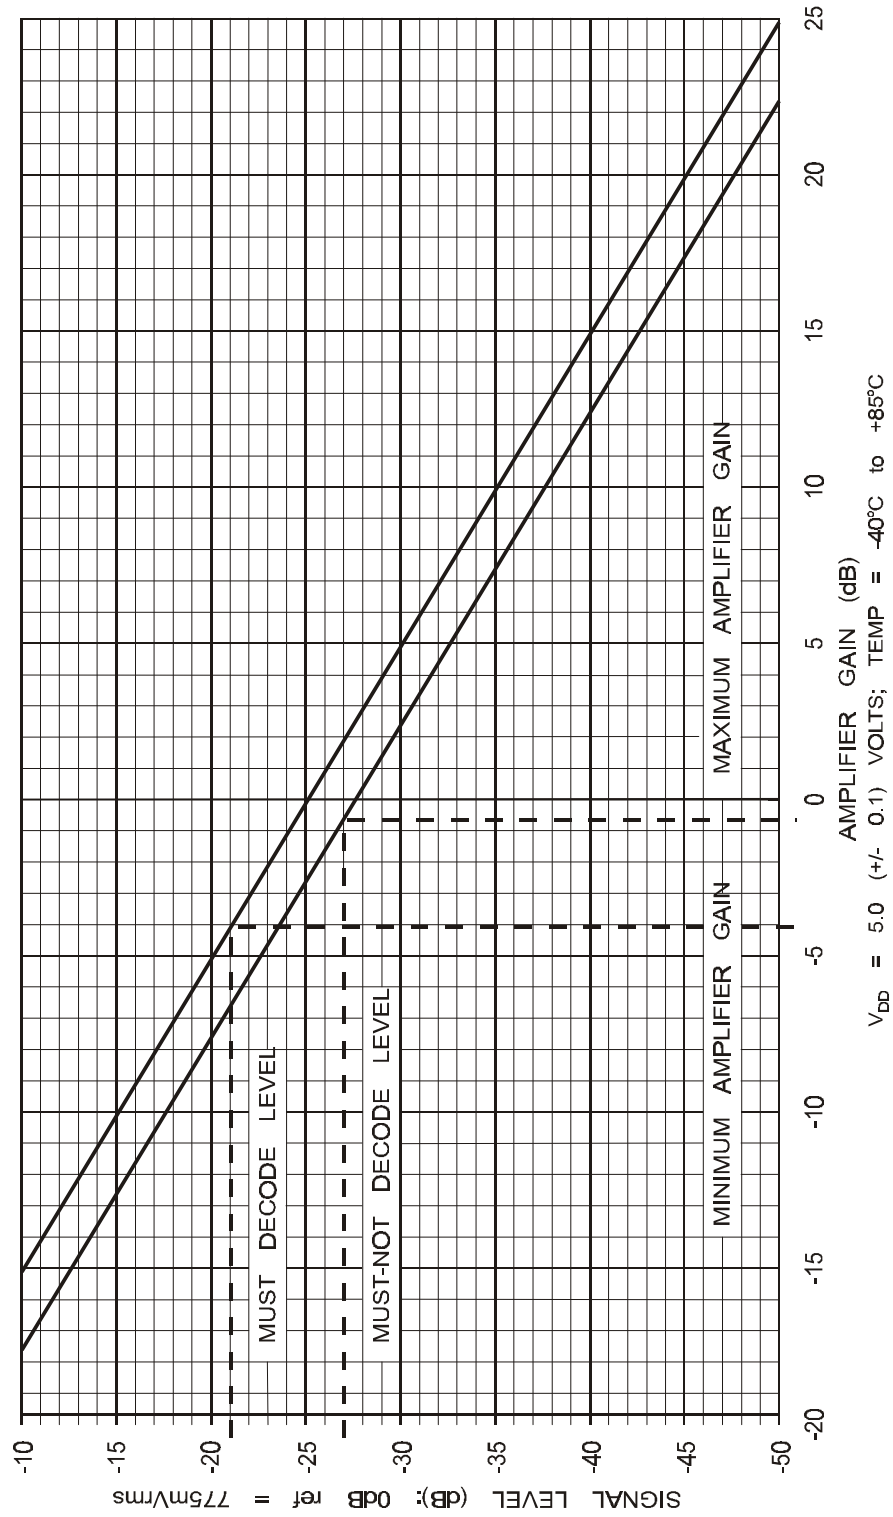

Figure 6 Input Gain Calculation Graph for use in the Fixed Sensitivity Mode of the Fixed Bandwidth Operating State
In this mode, the sensitivity of each channel is set by correct selection of external components around each Channel input amplifier. See section 1.6.5 and Figure 6 for a method of selecting amplifier gain and components to meet a particular sensitivity requirement.
*Input Gain Calculation:* The input amplifiers, with their external circuitry, are available to set the sensitivity of the CMX641A to conform to the user's national level specification with regard to 'Must' and 'Must-Not' detect signal levels. With reference to the graph in Figure 6, the following steps will assist in the determination of the required gain/attenuation.
Note that the device sensitivity is directly proportional to the applied power supply ( $V_{DD}$ ). The graph in Figure 6 is for the calculation of input gain components for the CMX641A using a  $V_{DD}$  of 5.0 ( $\pm 0.1$ ) volts. Subtract 4.44dB from the amplifier gain for operation at 3.0V volts.